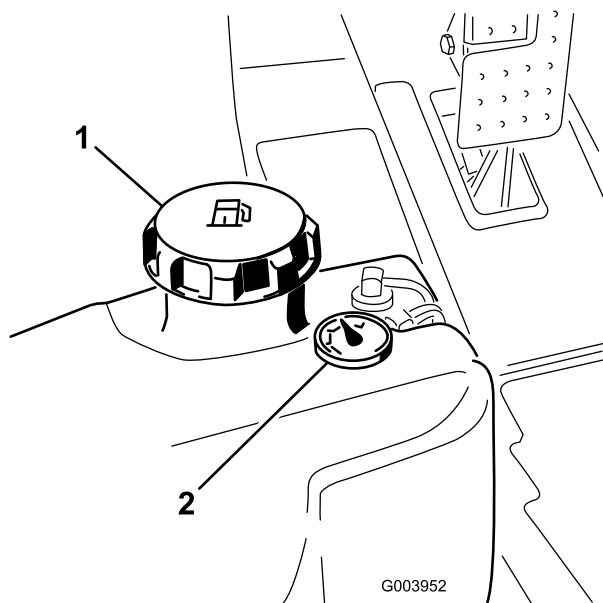

Figure 19
3. Remove cap from the fuel tank (Figure 19).